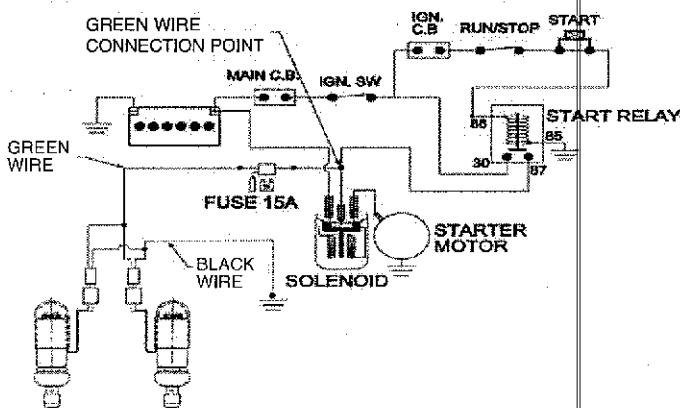

Figure 1
4. Using relay circuit diagram in Figure 1, locate on your motorcycle, the wiring connection point shown on the diagram. This will be between the starter relay and the starter solenoid.
13. Attach the green wire or fuse holder wire to the power connection point shown on Figure 1. Use either the supplied ring terminal or a connector of your choice.